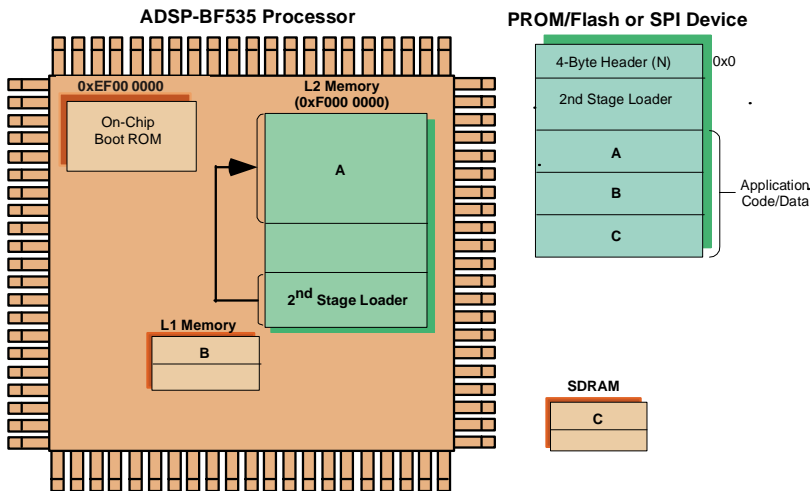

Figure 2-7. ADSP-BF535 Processors: Starting Application Code
4. Finally, after booting, the second-stage loader jumps to the start of L2 memory (0xF000 0000) for application code execution (Figure 2-7).